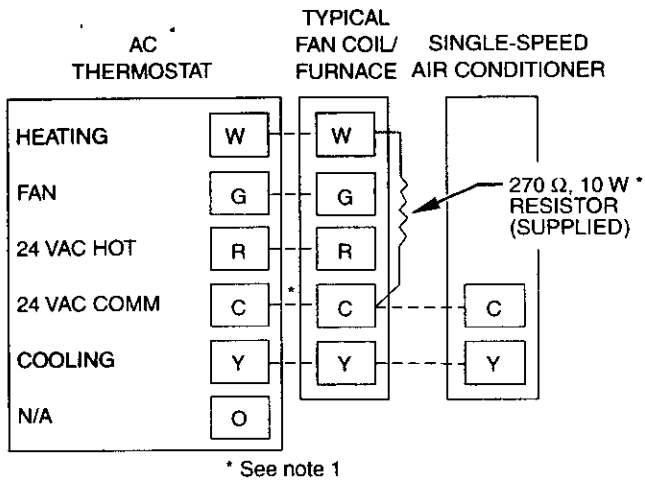

Fig. 2—Typical Air Conditioner
7. Strip 1/4 in. insulation from thermostat wire and adjust length to reach terminal block connector on mounting base. Match and connect proper wiring in accordance with wiring diagrams. (See Fig. 2, 3, 4, and 5.)
10. If "power stealing" method is used, be sure to attach 270 ohm load resistor at indoor unit. (See Fig. 2, 3, 5, and notes.)